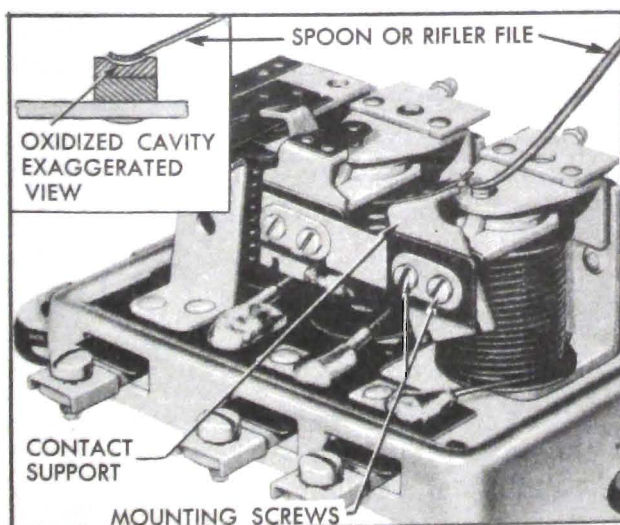

Figure 10-19—Cleaning Voltage Regulator Flat Contact Point
- (b) While looking squarely at voltmeter dial, press the "VOLTMETER CHECK" button and note whether the voltmeter needle aligns with the "SET" line. See figure 10-19. With check button depressed, the voltmeter is disconnected from any external circuit and is connected across an extremely accurate internal test cell which checks its calibration within the range required for testing the voltage regulator.
Loosen the upper contact support mounting screws on voltage and current regulators and tilt support to one side so that each point can be cleaned separately without danger of bending the upper contact spring. Use a thin, fine-cut file on the crowned point on contact support, and use a spoon or rifler file to clean out the cavity which is usually formed in the flat contact point on the armature. See figure 10-19. A flat file will not clean out this cavity. File just enough to remove oxidation. *Never use emery cloth or sandpaper on contact points since particles of emery or sand left on points will cause them to arc and burn.*